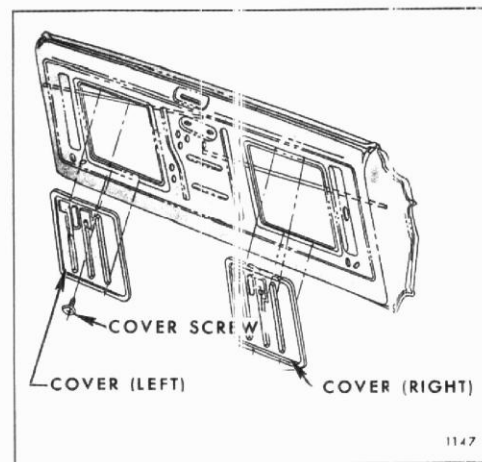

Fig. 9-3-Tail Gate Inner Panel Access Hole Cover
2. Remove upper screws securing right and left access hole covers to tail gate inner panel and remove covers by sliding upward (See Fig. 9-3).